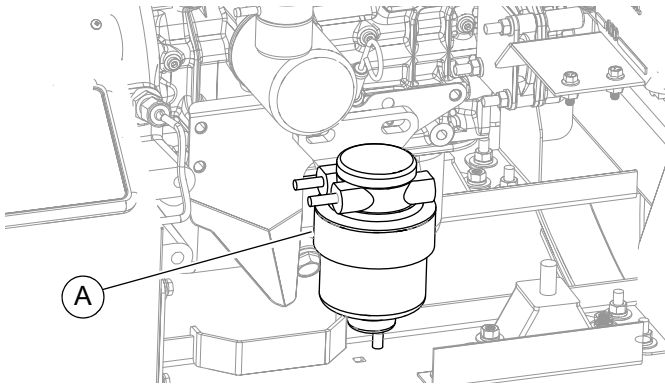

Figure 2-8. Heated Fuel Filter
See **Figure 2-8**. An optional heated fuel filter (A) prevents diesel fuel from gelling in extremely cold temperatures. Heating cycles are automatically controlled by the Power Zone–DLA.